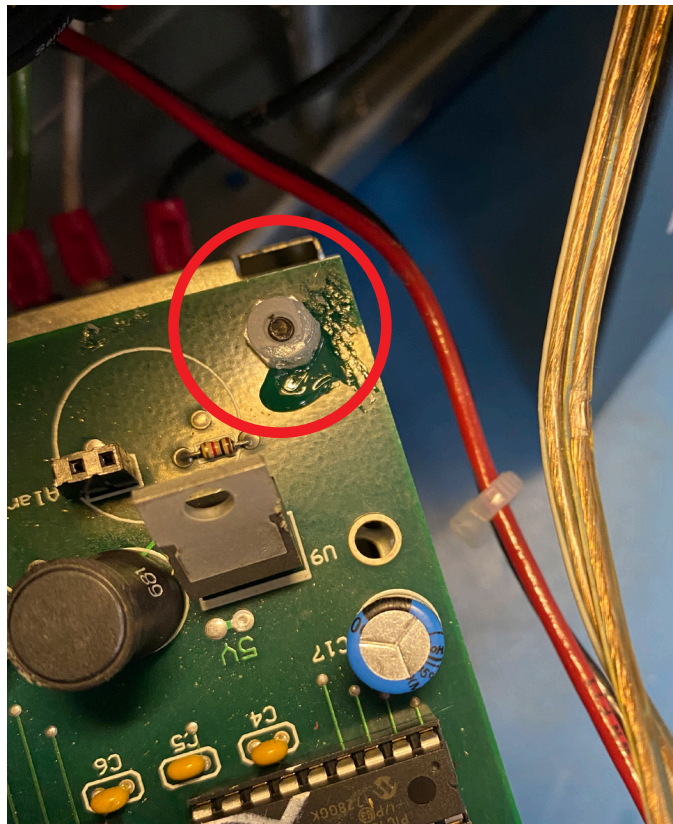

FIGURE 9
7. Remove the (4) plastic nuts from the board. These hold the board onto the power supply (see Figures 9 and 10).